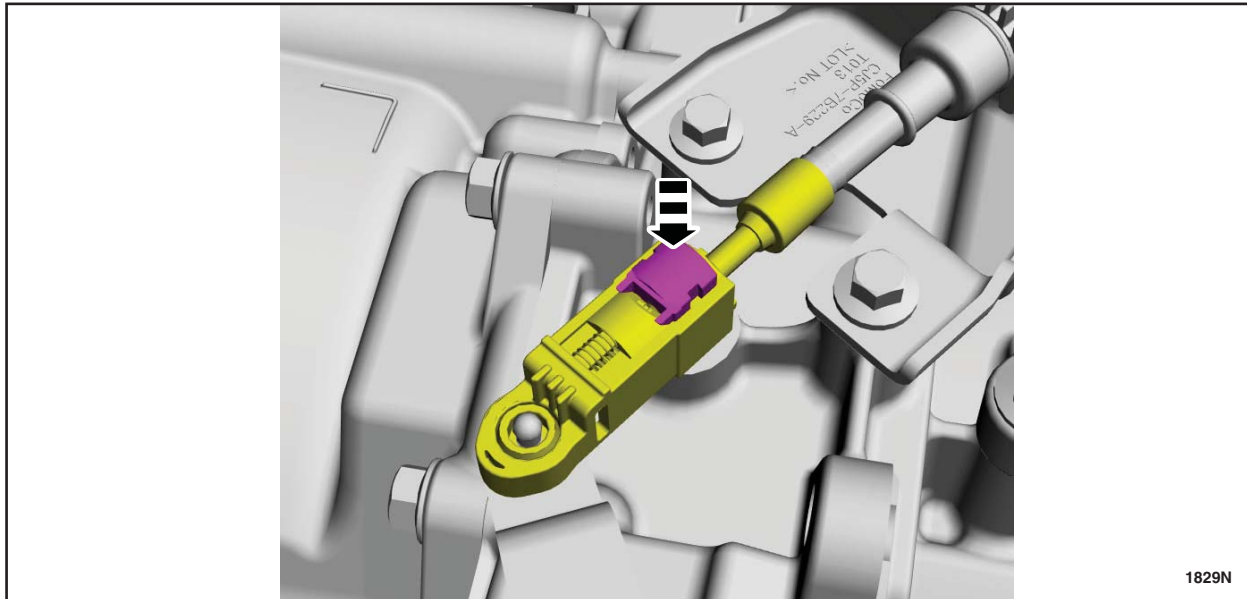

FIGURE 14
15. Slide the adjuster tab in place to lock the selector lever cable. See Figure 14.